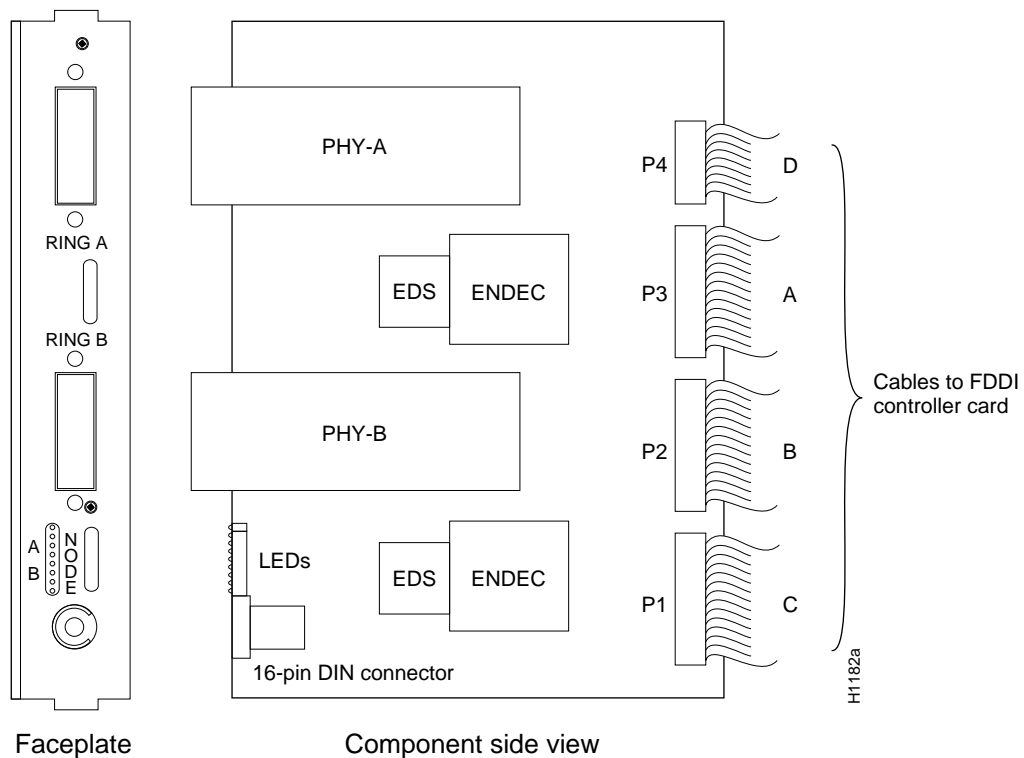

Figure 2 Multimode/Multimode Applique—APP-LMM
The fiber optic transceivers reside on circuit cards called *appliques* that provide the interface between external network connections and the internal CSC-FCI card. The four applique configurations are shown in Figures 2 through 5; each provides a unique combination of single and/or multimode FDDI interfaces.
- PHY-A multimode, PHY-B multimode (APP-LMM), Figure 2